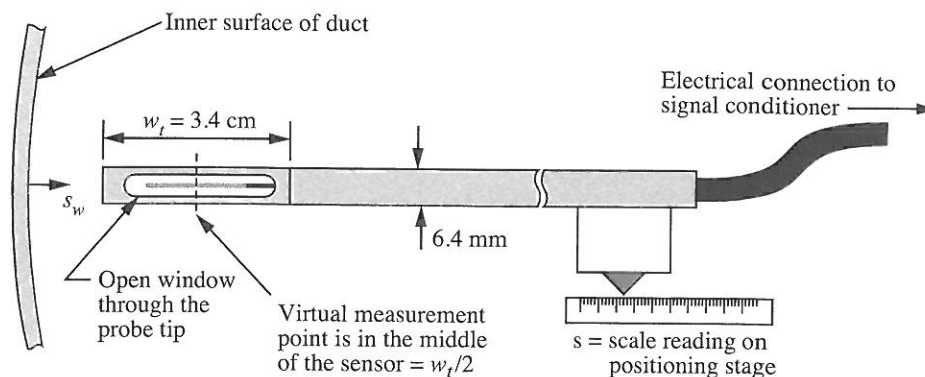

Figure 3: Detail of the velocity probe tip when it is near the far wall of the duct.
Figure 3 depicts the location of the sensing element in the probe tip. The sensing element looks like a small cylinder suspended in the center of an opening in the otherwise solid probe assembly. For the purpose of this laboratory exercise, the velocity is assumed to be measured at a *virtual sensor* location at the center of the opening in the probe tip. In other words the velocity measurement is assumed to occur at a distance  $w_t/2$  from the physical end of the probe.
The location of the velocity sensor in the duct is controlled by a manual positioning stage. The user changes the location of the probe by turning the crank on the positioning stage. The position is indicated by a linear scale on the side of the positioning stage. Figure 3 shows the schematic relationship between the probe position in the duct and the position indicated on the positioning stage. The indicator on the positioning stage defines the value of  $s$ . When the probe tip is touching the inner surface of the duct wall the indicator on the positioning stage has a value of  $s$  called  $s_0$ .
5. Turn the crank on the linear stage until the probe is near the centerline. Inspect the probe tip by looking axially along the duct from the open end. Refer to Figure 3. In the box marked *Probe tip offset* record the distance from the free end of the probe to the center of the sensor.